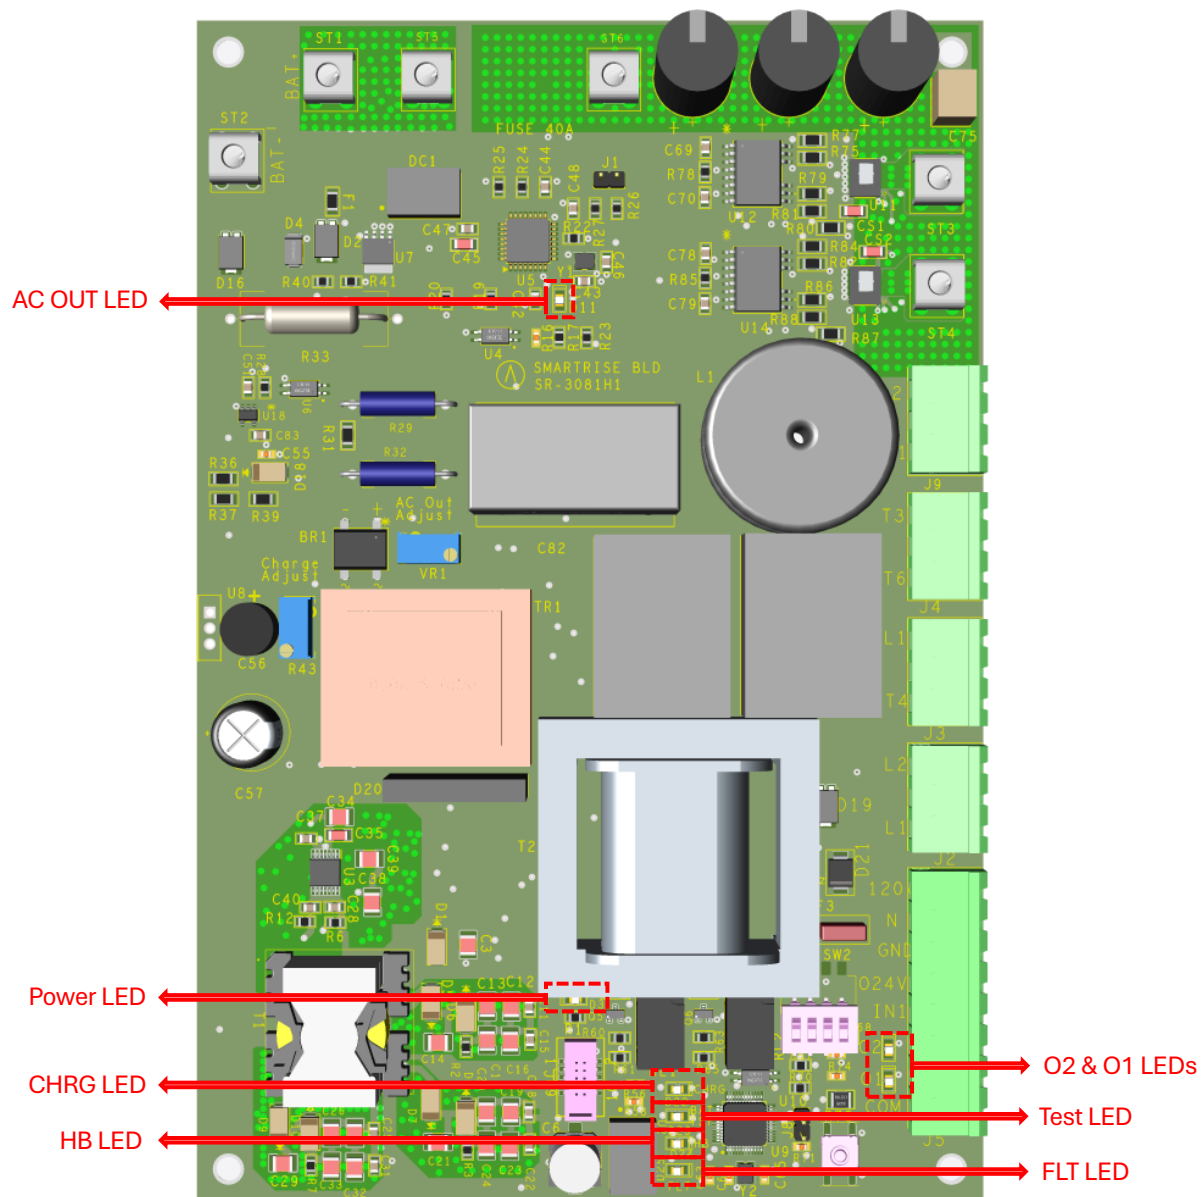

Figure 6: BLD LEDs
| Figure 6: BLD LEDs .....                                      | 5  |
- ◆ **FLT LED:** Flashes in cycles to indicate the state and any faults in the BLD [see Figure 6].